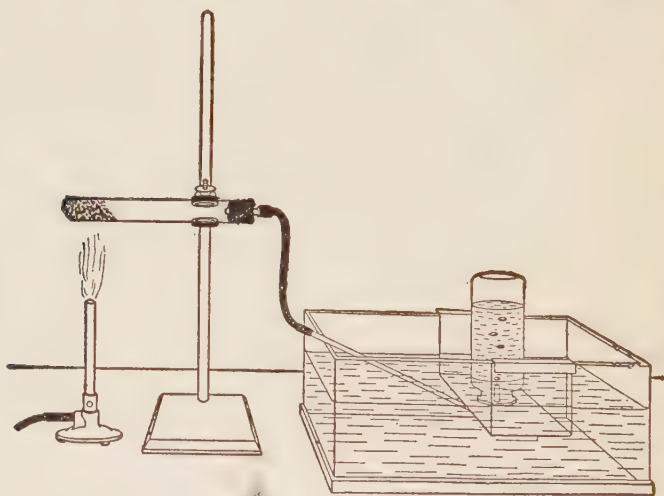

FIG. 13.
b. Place the remainder of the mixture made up for a in the hard glass test-tube provided with a stopper and glass tube (Exercise 3 d), and test for air-tightness. Moisten the end of a piece of narrow rubber tubing (12 in. long) and slip it over the end of the tube. Clamp the tube in a horizontal position (Fig. 13). Fill the pneumatic trough with water so as to cover the shelf or other support. Fill 3 wide-mouth bottles with water, cover them with glass plates, and invert them, one on the shelf, and the other two in the trough. Use a small Bunsen flame to heat the tube and collect the first bubbles of gas in a test-tube filled with water and inverted over the exit of the rubber tube. Test this gas with a glowing splinter (?). What is this gas, and where did it come from? Now
While this is going on, insert an obtuse-angled tube in a one-hole rubber stopper which fits into a hard glass test-tube (as in Fig. 3, Exercise 3 d). Fill a 2-liter bottle with water, invert it in the pneumatic trough, and arrange the apparatus as in Fig. 13, Exercise 14.